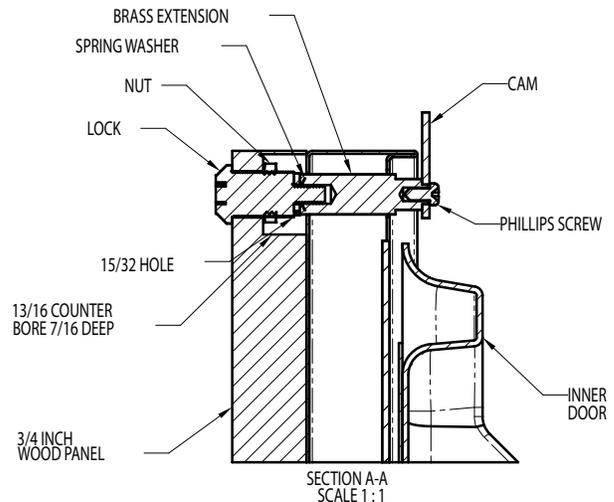

Figure 10
Locate and mark with a pencil the location of the lock hole on the overlay panel, this is the hole in the top corner of the handle side of the door. Remove the clamp and remove the overlay panel from the door. On the backside of the panel where you marked the lock location drill a  $1\frac{3}{16}$ " (20.5mm) diameter counter bore  $\frac{7}{16}$ " (11.0mm) deep into the overlay panel. Drill a  $1\frac{5}{32}$ " (12.0mm) diameter hole through the overlay panel centered on the counter bore being careful not to splinter the wood on the face side of the panel. (See Figure 10).
Two (2) lock extensions are supplied with the lock. Use the longer extension for a  $\frac{3}{4}$ " thick overlay panel and the shorter one for a  $\frac{5}{8}$ " thick panel. Assemble the lock extension, cam stop washer, spring washer, and set screw to the lock as shown in Figure 10 and 11. Install this assembly into the overlay panel and secure with the retaining nut using a 15mm socket. Make sure the key slot in the lock is vertical.